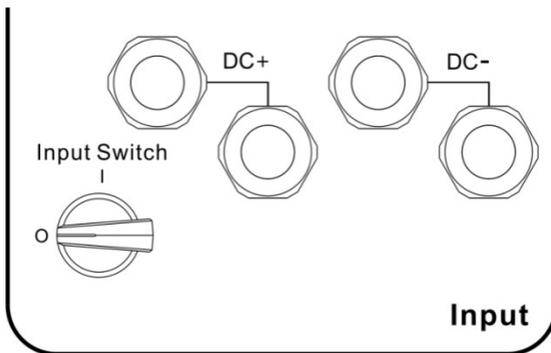

Figure 9
Step 3: Loosen the DC+ and DC- thread locknuts at the DC input, as shown in Figure 9.